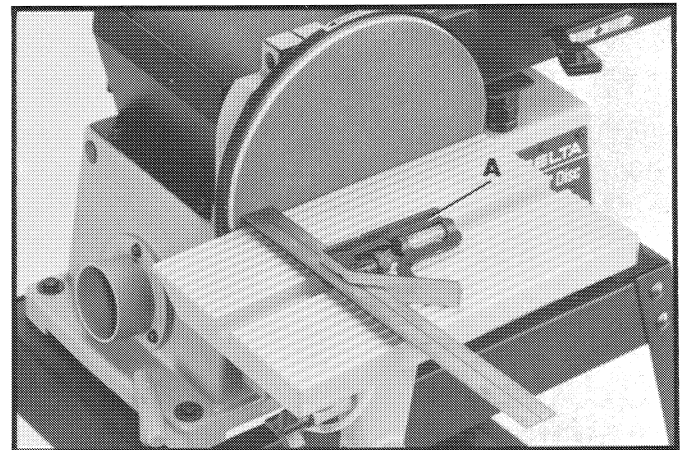

Fig. 29
2. Using a combination square (A) in the miter gage slot, check the distance from the slot to each end of the sanding disc, as shown in Figs. 29 and 30. This distance should be the same.